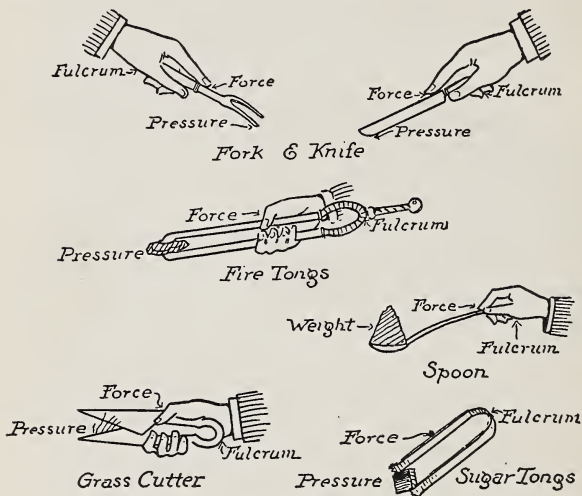

Fig. 135
10. Study the diagram of the knife in Fig. 135. Suppose the force arm to be 4 inches long and the resistance arm 10 inches long, how much cutting pressure is produced by exerting 15 pounds of force?
13. In using a grass cutter of the type shown in Fig. 135, how could you increase the cutting pressure of the blades without exerting any more force by the hands?